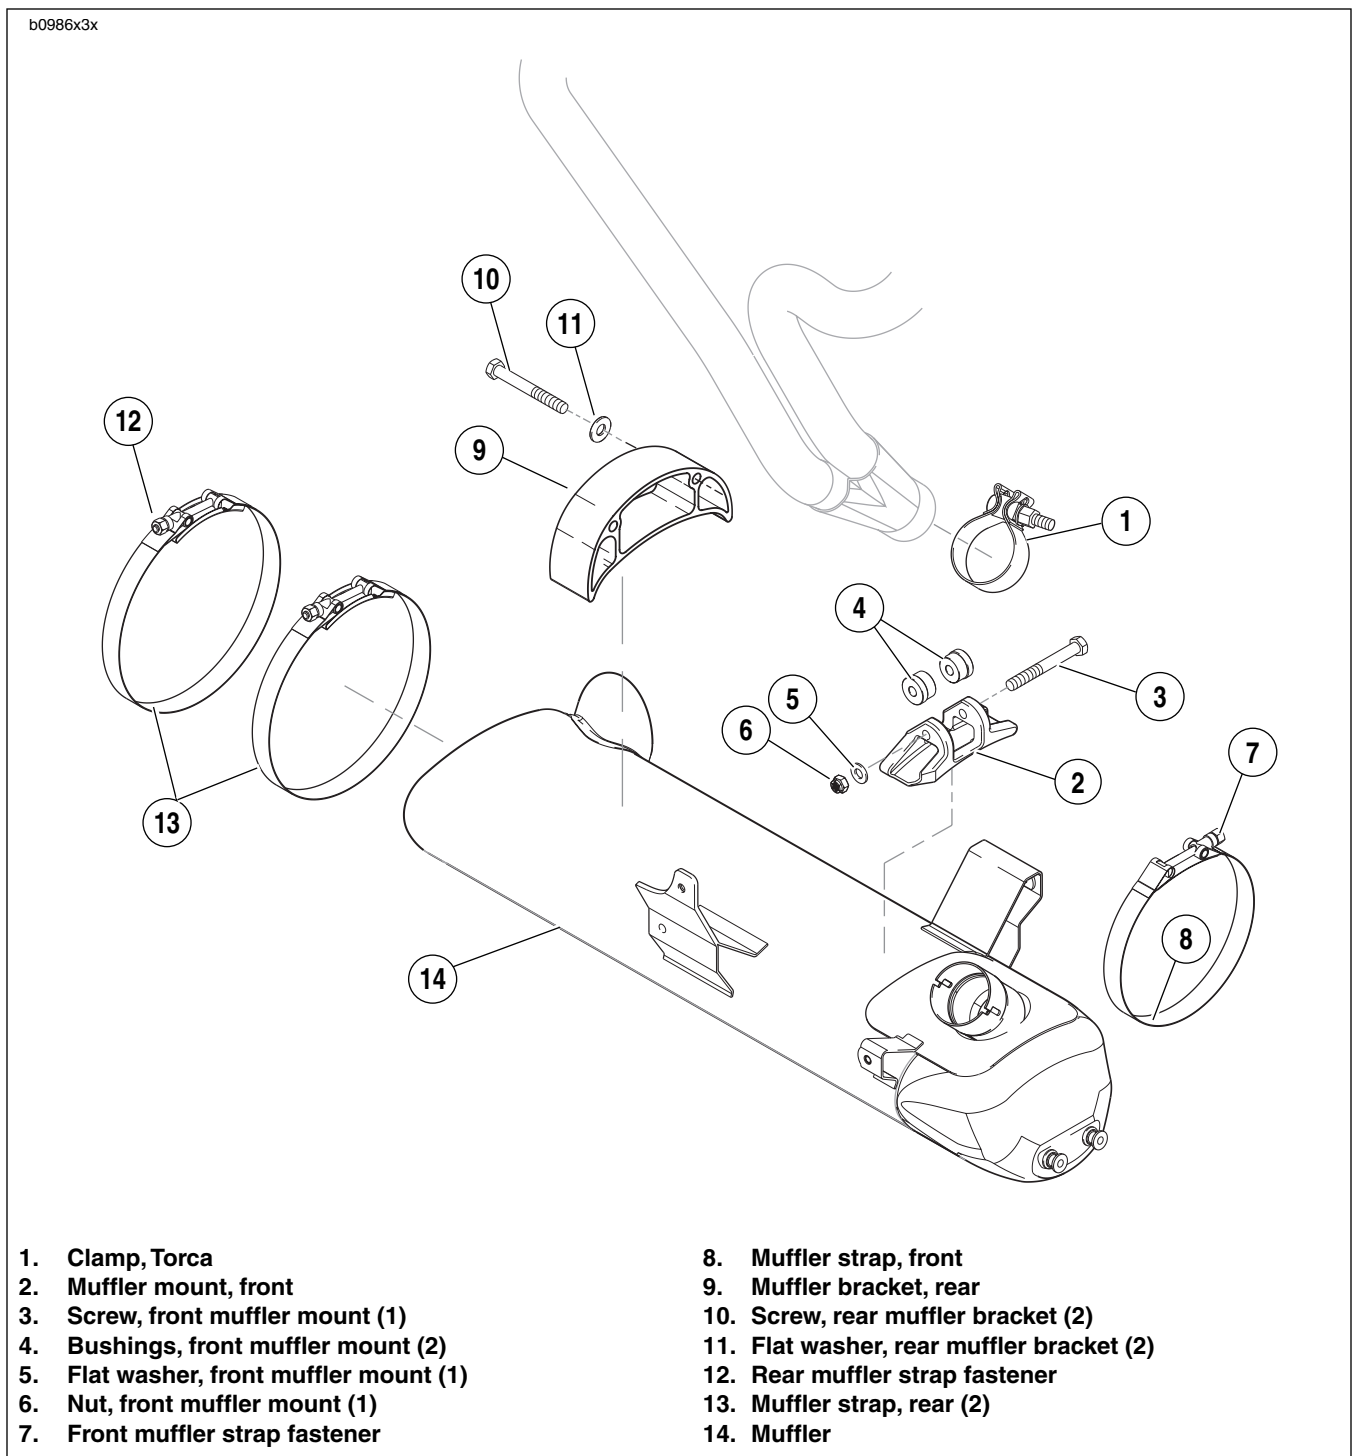

Figure 3-16. Muffler and Mounting System (XB9R)
16. See Figure 3-16. Remove muffler. See 2.28 EXHAUST SYSTEM.